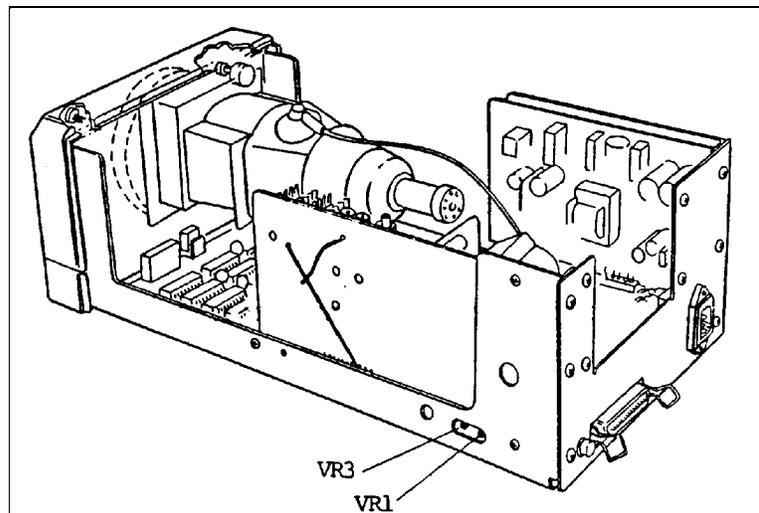

Figure 4-43. Autoluminance Adjustment on the Logic Board
5. Follow the Gentest procedure, setting the dark current to 4 by adjusting VR3 on the logic board (Figure 4-43). The dark current level appears on the Gentest menu.
9. Adjust VR1 on the logic board (Figure 4-43) until the Gentest Autoluma on the screen reads 200.